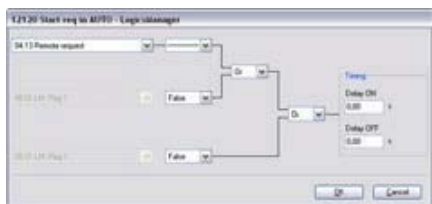

Fig. 201: LogicsManager function "Start req in AUTO"
3. ➔ Configure the LogicsManager function "Start req in AUTO" as shown in (Fig. 201).